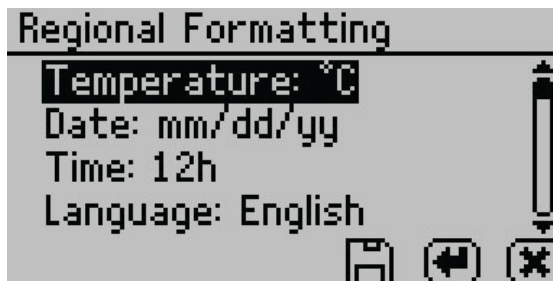

Figure 45 Regional Formatting option
- **Regional Formatting.** Select to configure how the AQUALAB displays information. Choose the temperature scale (Celsius or Fahrenheit), the date display (mm/dd/yy or dd/mm/yy), the hour format (12h or 24h), and the language (Figure 45).